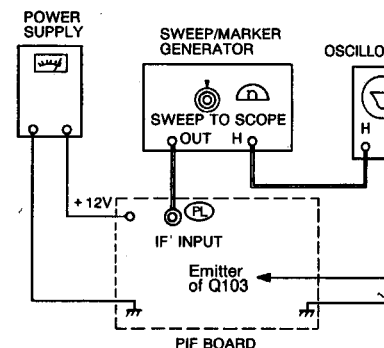

Figure 4.
- GENERAL Refer to figure 4 for the equipment connections.